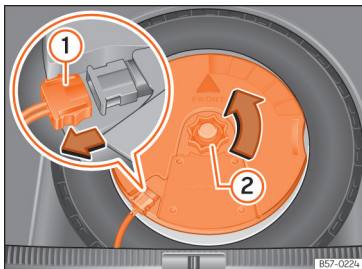

Fig. 215 In the boot: remove the subwoofer.
- Disconnect the subwoofer's speaker cable >>> Fig. 215 ①.
- Turn the securing wheel anti-clockwise >>> Fig. 215 ②.